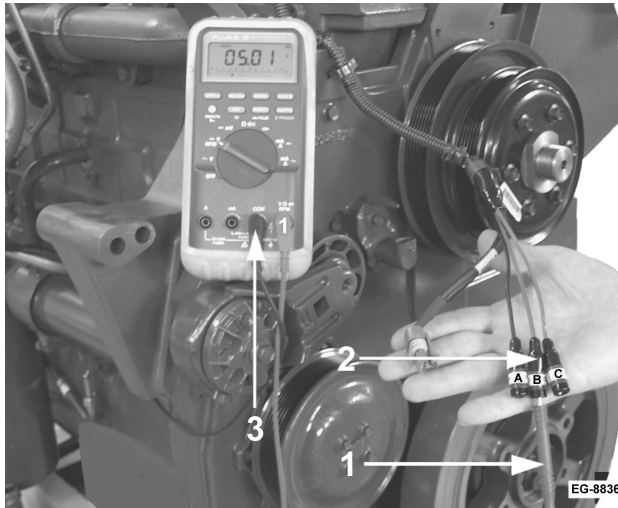

Figure 83 Measuring Vref Voltage with ZTSE4486
- V_{REF} should measure $5 \pm 0.5V$ (4.5 - 5.5 V) with the sensor disconnected. If the voltage reading is lower than expected, disconnect the sensors that operate on that V_{REF} circuit (V_{REF} -D: EOP, MAP, CMP, ICP; V_{REF} - B: APS/IVS, BAP; V_{REF} - C body builder accessories) one at a time while observing V_{REF} . If V_{REF} returns after disconnecting a sensor, that sensor is shorting V_{REF} to ground, refer to Measuring Voltage Reference, (See Figure 83, page 178).